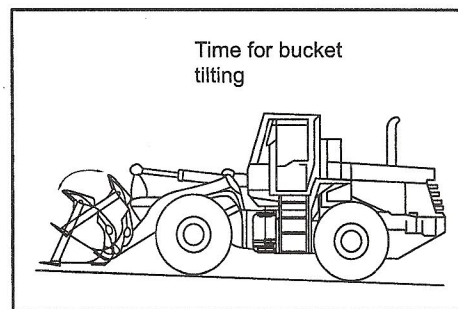

Fig. 05-42
- 2) Get the bucket be parallel to the ground, and measure how long it needs to move the bucket from being horizontal position to fully being tilted backwards. (See Fig. 05-42).